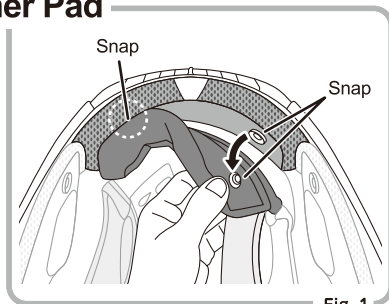

Fig. 1
- ① Undo the snaps at the rear (Fig.1)